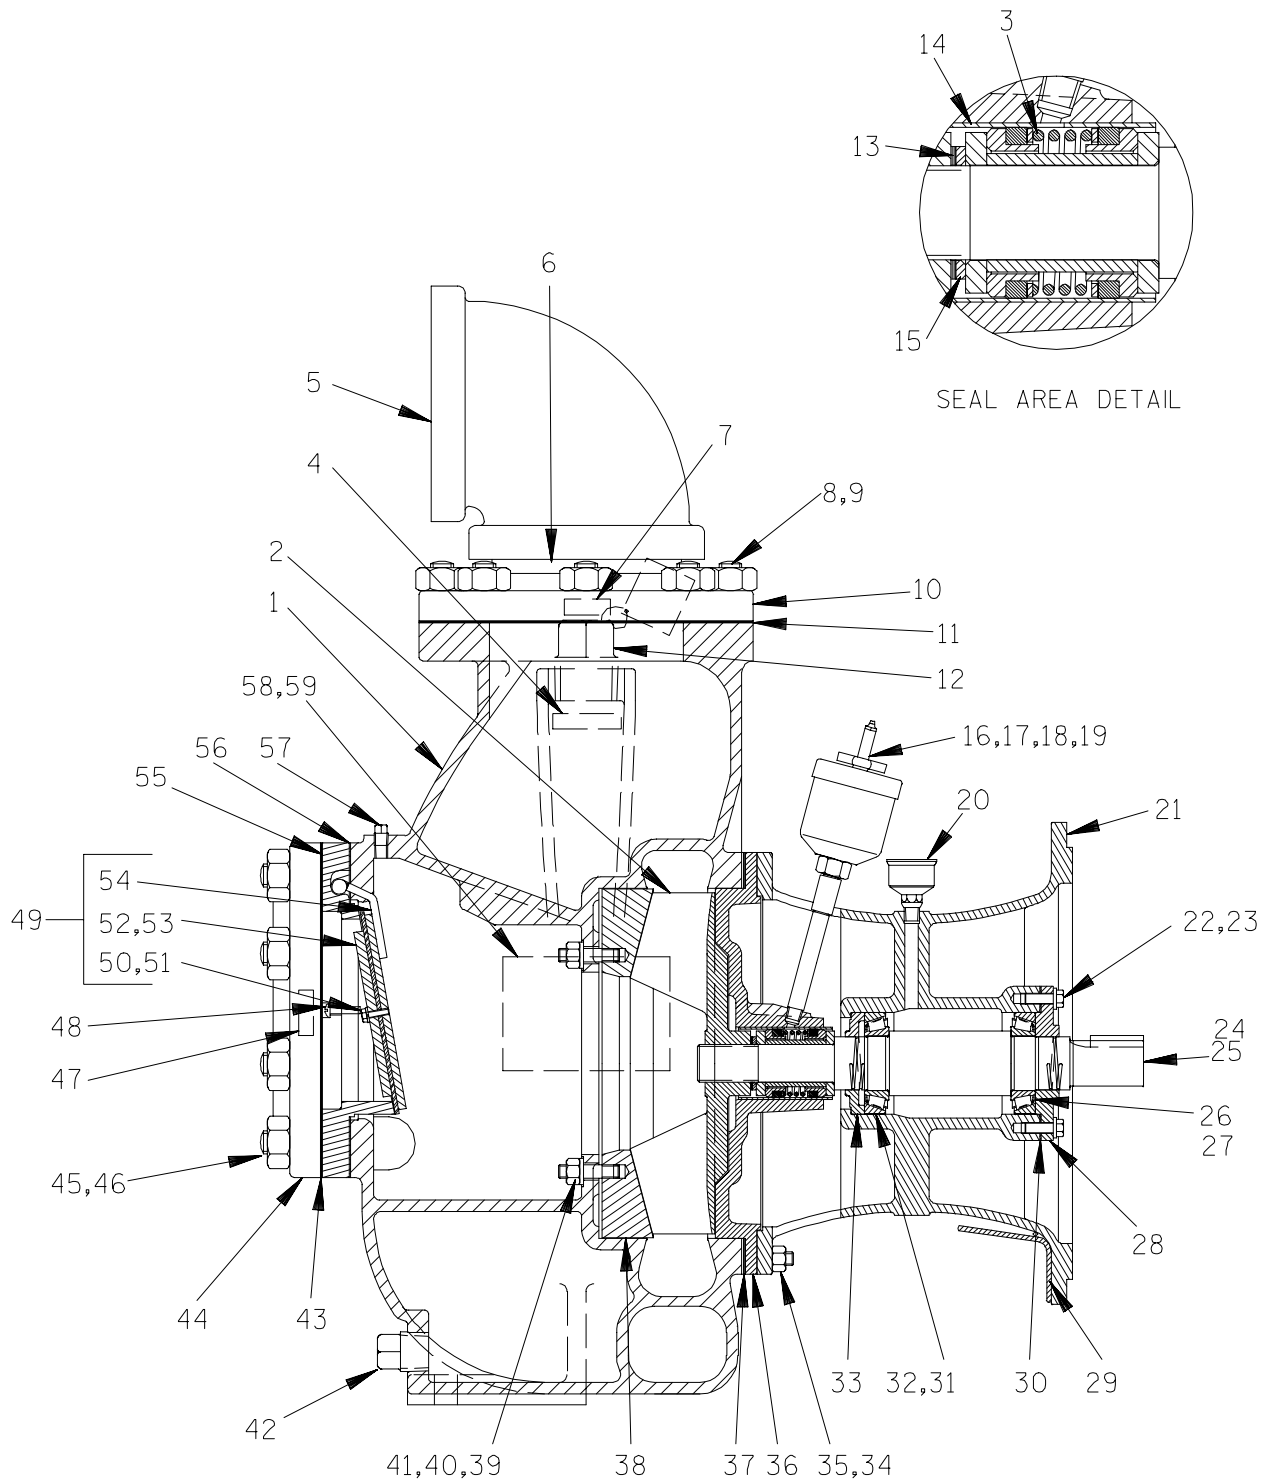

Figure 2. Pump End Assembly 86A2-(SAE 4/10)
(Figure 2)
If it is necessary to separate the intermediate and drive assembly from the engine, support the intermediate using a suitable hoist and sling. Remove the hardware (6 and 7) securing the intermediate and guards (29, Figure 2) to the engine bellhousing. Separate the assemblies by pulling straight away from the engine.
As the assemblies separate, the flexible portion of the coupling assembly (3) will remain on the shaft. To remove the coupling from the shaft, unscrew the two allen head setscrews from the bushing (2). Screw one of the setscrews into the puller hole on the circumference of the bushing. As the coupling and bushing separate, remove the bushing, and slide the coupling off the shaft. Remove the shaft key (25, Figure 2).